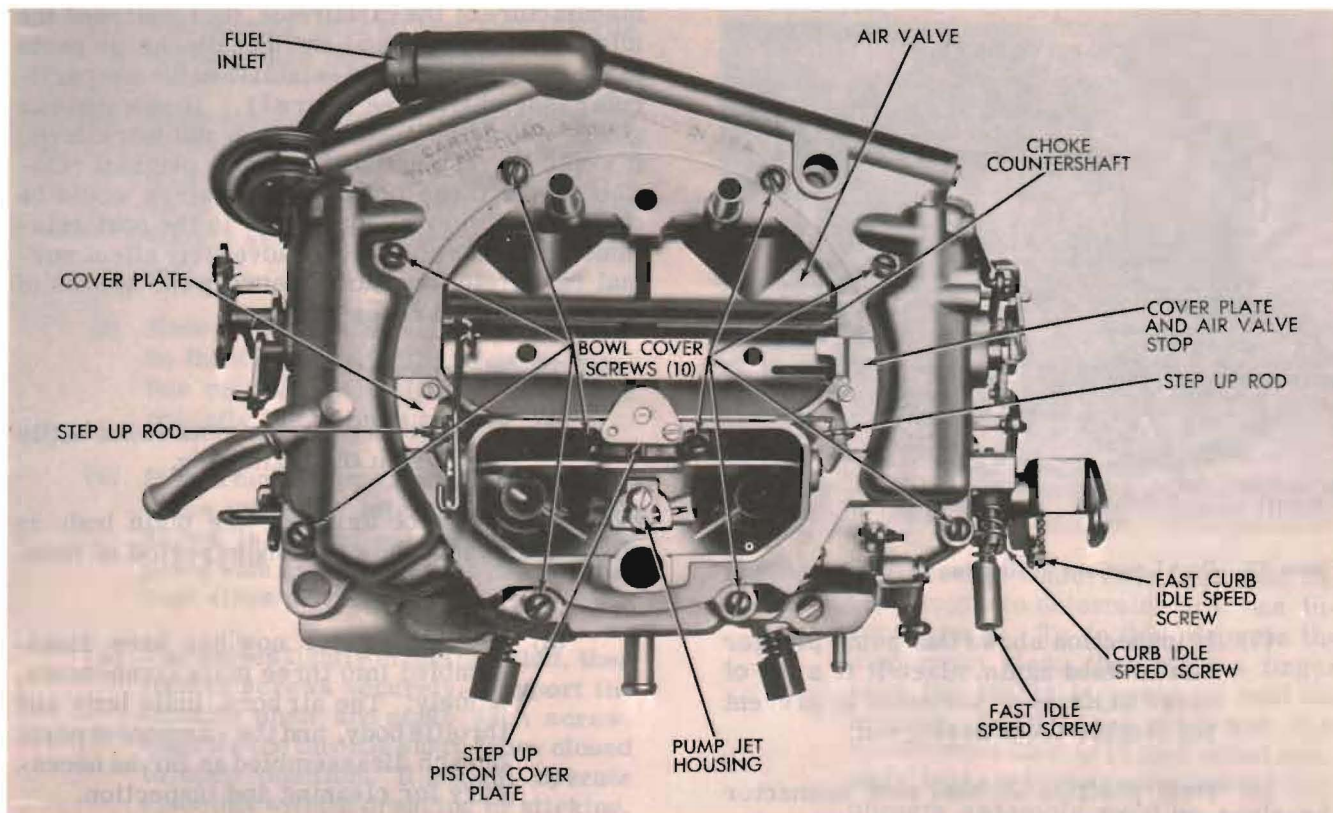

Figure 9. Top View of Carburetor
- (1) Place carburetor assembly on repair stand (Tool C-3886). The repair stand is used to protect throttle valves from damage and to provide a suitable base for working.
- (2) Remove rod retainers that hold throttle connector rod to accelerator pump arm and throttle lever, then remove rod from carburetor.
- (3) Remove accelerator pump arm screw and disengage it from pump rod "S" link, (leave the "S" link connected to pump rod) then remove the lever.
- (4) Remove the choke countershaft fast idle lever attaching screw while holding lever. Disengage lever from countershaft, then swing the fast-idle connector rod at an arc until it can be disengaged from the fast-idle operating lever.
- (5) Remove rod retainers and washer that holds choke diaphragm connector rod to choke vacuum diaphragm and air valve lever, then remove the lever.
- (6) Remove the rod retainer that holds choke connector rod to choke countershaft, then disengage the rod and swing it at an arc to disengage the choke shaft lever assembly.
- (7) Remove the step-up piston cover plate attaching screw and cover plate, then remove step-up piston and link assembly with step-up rods. Remove the step-up piston spring.
- (8) Remove the pump jet housing screw, housing and gasket. Invert carburetor and remove discharge check needle.
- (9) Remove 10 bowl cover screws. (See figure 9.) (Two of the bowl cover screws are located between choke valve and wall of bowl cover.) Remove the bowl cover and invert it on work bench to protect floats.